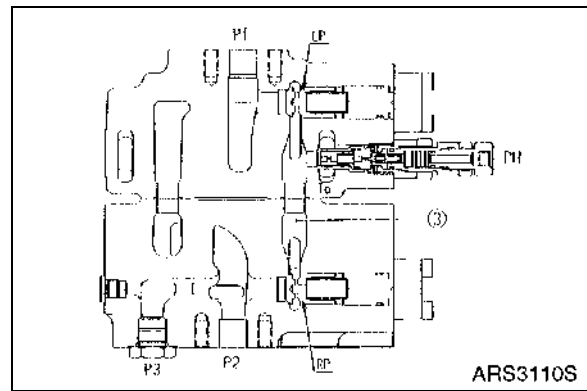

Figure 15
Oil supplied to port (P1, Figure 15) flows through poppet (LP). Oil supplied to port (P2) flows through poppet (RP) and passage (3). They join at the main relief valve. The highest pressure of pump (P1) and (P2) is controlled by reaction of main relief valve.